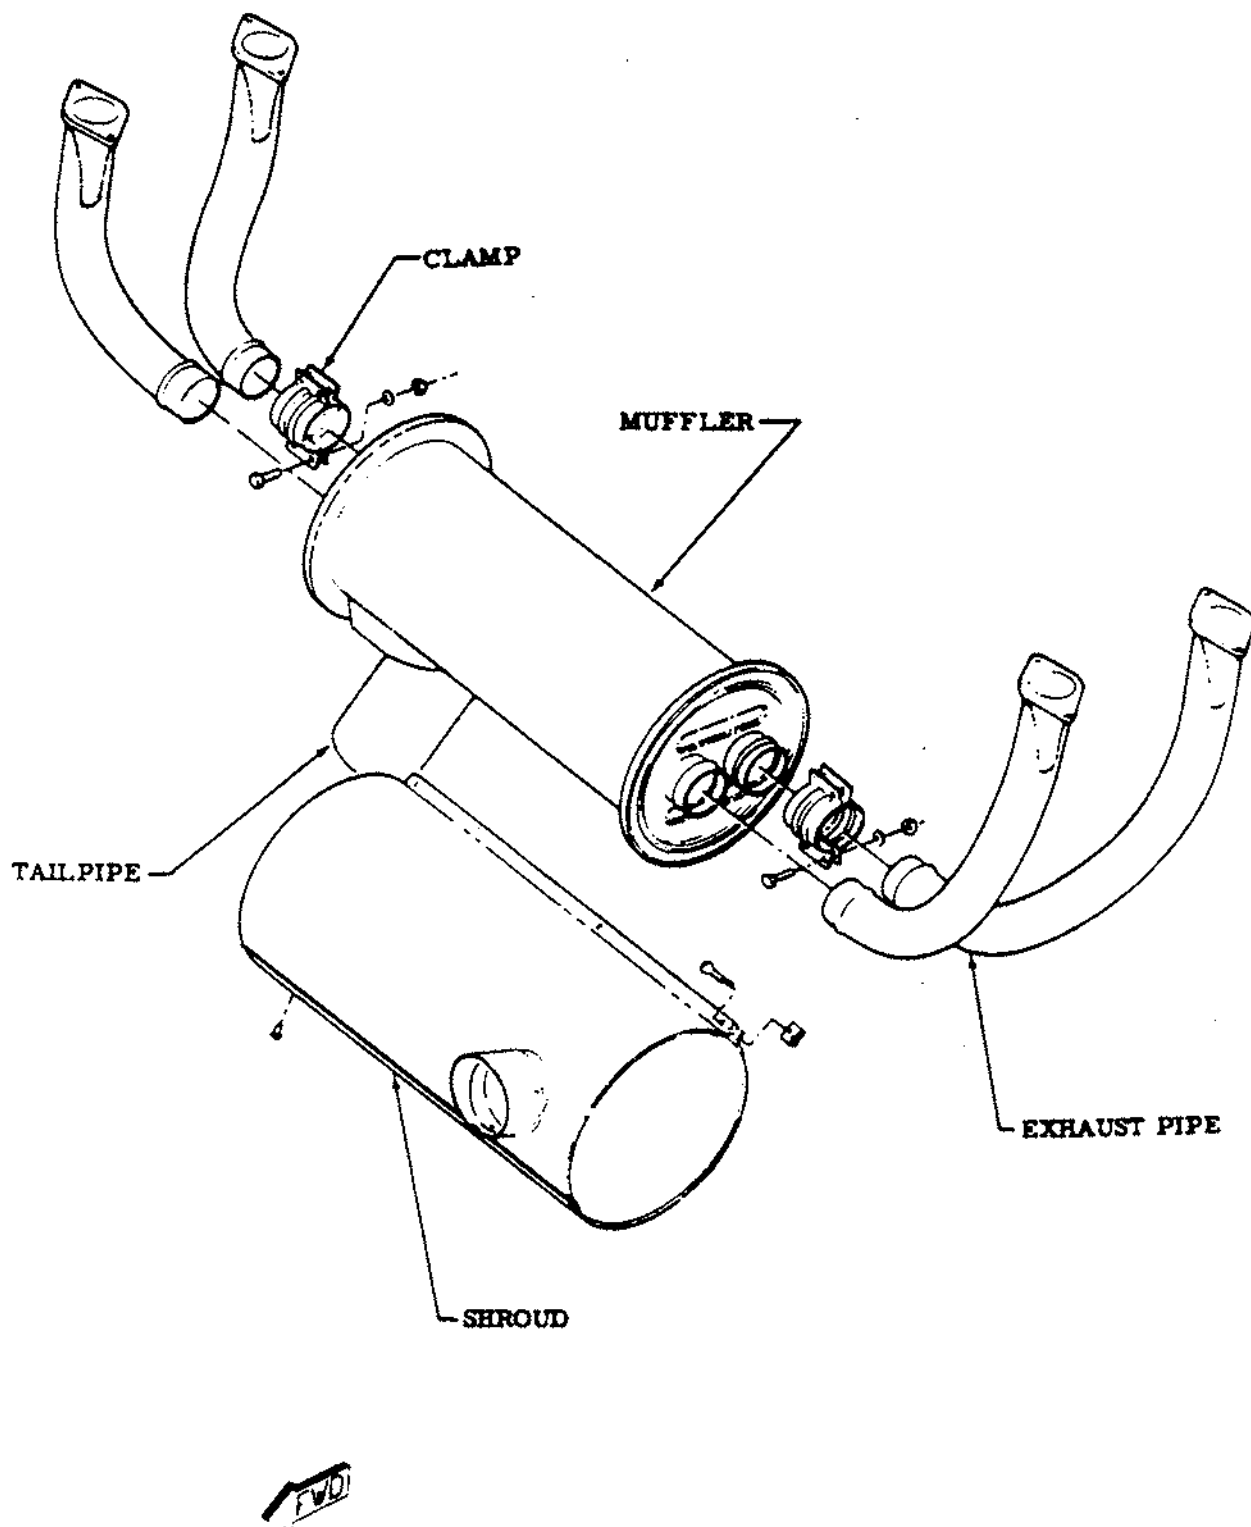

Figure 11-5. Exhaust System
- 11-70. **EXHAUST SYSTEM.** (See figure 11-5.)